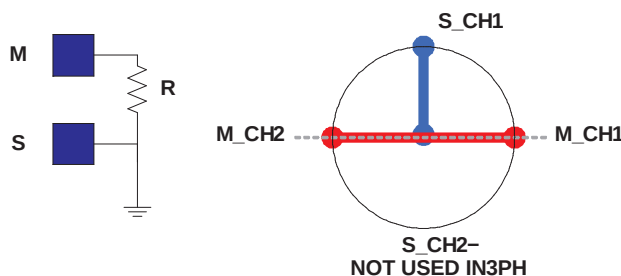

Figure 5-21. Phase System: 2 Channels of the Master and 1 Channel of the Slave
Configuring for other than 2, 4, 6, 8, 12 or 16 phases is simply a matter of not attaching one or more slave controllers. The phasing between master and populated slaves is as shown above. For example a 3-phase system could be configured with a master CH1 and master CH2 and 1 phase of a slave. Referring to part (B) above, the 3 phases could be master CH1, master CH2 and slave CH1 or slave CH2 as shown in Figure 5-21.